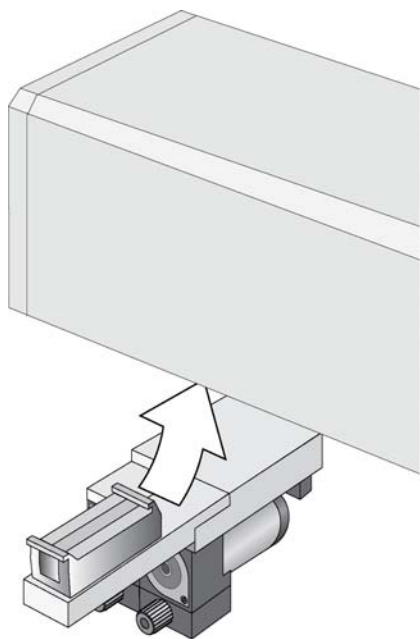

Figure 17 Attaching Pump Holder Bracket to X-Axis
- 2 Attach the holder to the X-axis as shown in Figure 17 on page 68.